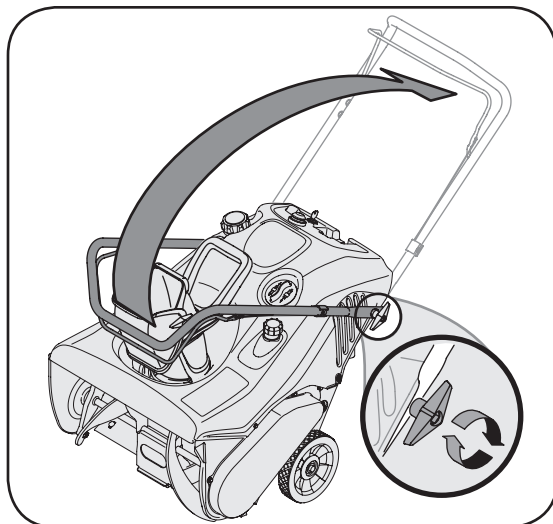

Figure 1
2. Making sure not to pinch the cable in the process, pivot the upper handle into the operating position as illustrated in Figure 1 until it clicks into place.
3. Tighten the wing knobs to secure the handle in place as in Figure 1.